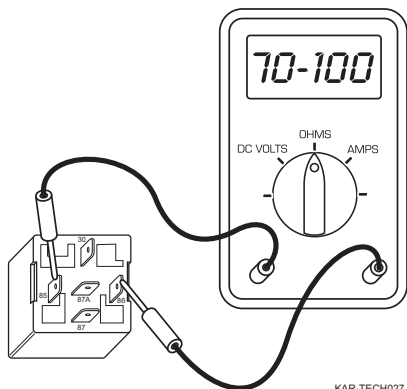

Figure 53
- Ohms test. Connect ohmmeter between terminals 85 and 86 (Figure 53). Ohmmeter must indicate **70-100 ohms**.